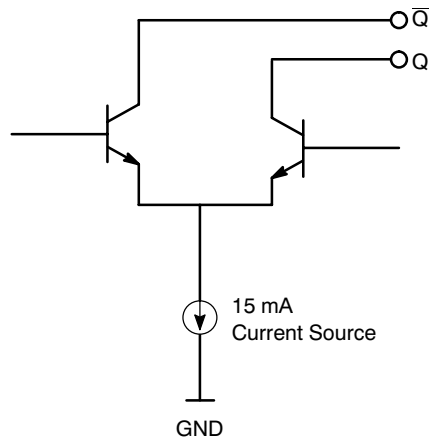

Figure 4. Output Structure
\*The PECL Outputs are 15 mA open collector and must be DC loaded and AC terminated. See Figures 4, 5 and 6.
- PECL outputs loaded with external resistors for proper operation (see Figures 4, 5 and 6).
The NB4N507A requires a 0.01  $\mu$ F decoupling capacitor to be connected between  $V_{DD}$  and GND on pins 2 and 5. It must be connected close to the NB4N507A. Other  $V_{DD}$  and GND connections should be connected to those pins, or to the  $V_{DD}$  and GND planes on the board. Another four resistors are needed for the PECL outputs as shown in Figure 4. Suggested values of these resistors are shown, but they can be varied to change the differential pair output swing, and the DC level.